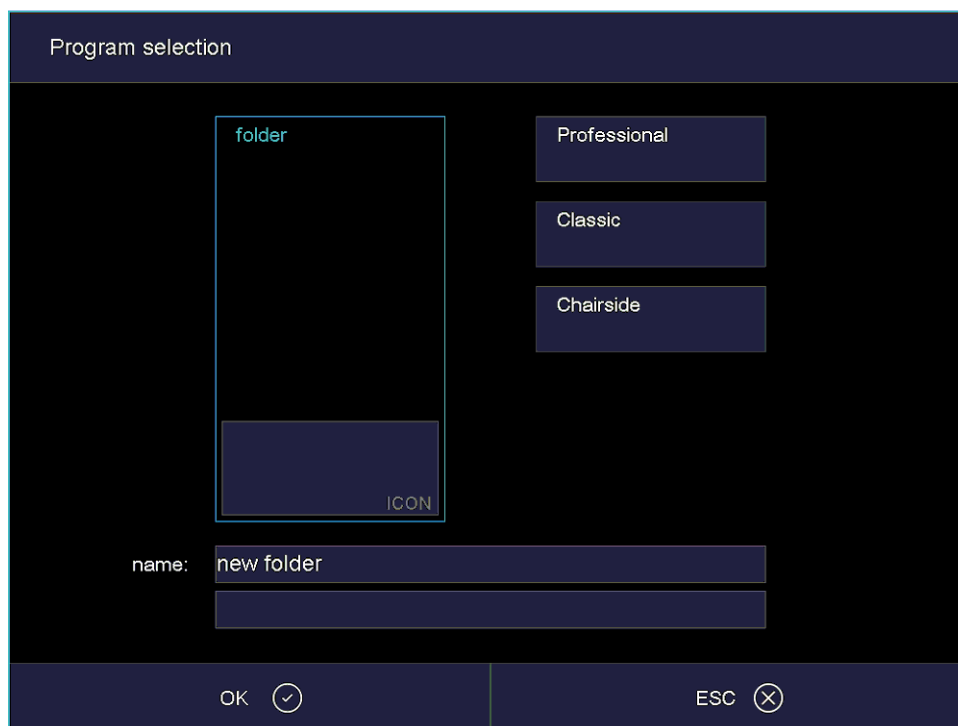

Fig. 5-6 Window "Program selection": Folder
- The "Program Selection" window opens. See Fig. 5-6.